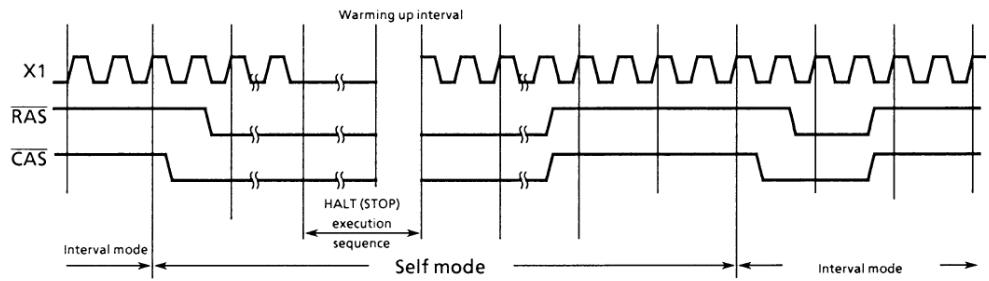

Figure 3.7 (6). Self Refresh Cycle Timing
However, $\overline{\text{REFOUT}}$ is not output. ("1" is output.) Figure 3.7 (6) shows the self refresh mode timing diagram.